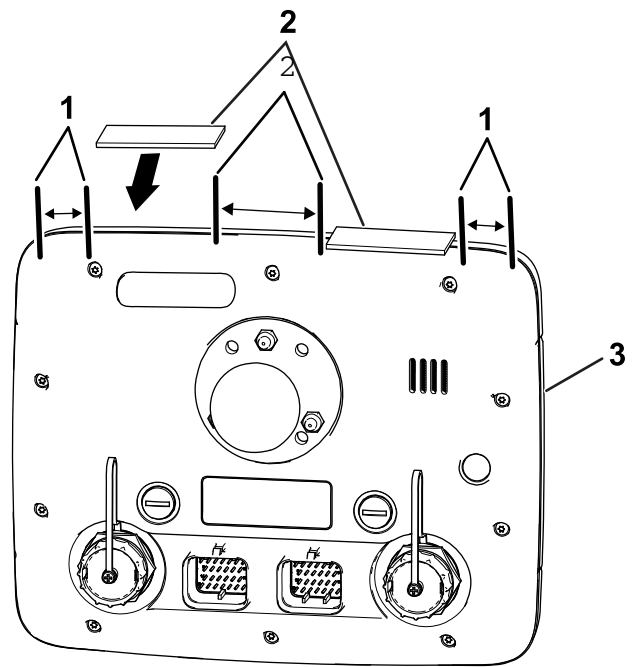

Figure 129
3. At the top of the sprayer monitor, align the strips to the sprayer monitor as shown in Figure 129.